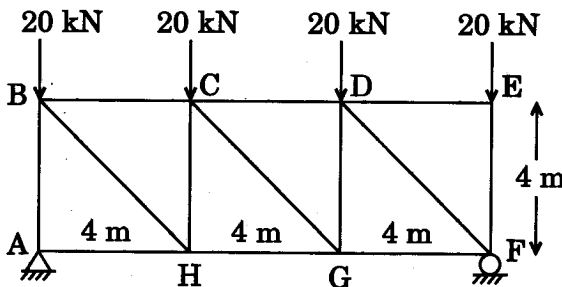

Figure 1
1. Determine the vertical deflection of the joint H of the truss as shown in Figure 1. Area of cross-section of each member = 2000 mm^2 . Take $E = 200 \text{ kN/mm}^2$. If the temperature of the bottom chord member goes up by 20°C , what will be the additional deflection of the joint H ?